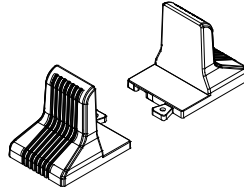

Figure 2-1 Installing support base
1. Take out support bases from the accessories, and snap them up in the direction shown in Figure 2-1, and then put the support bases down on the installation surface flatwise.